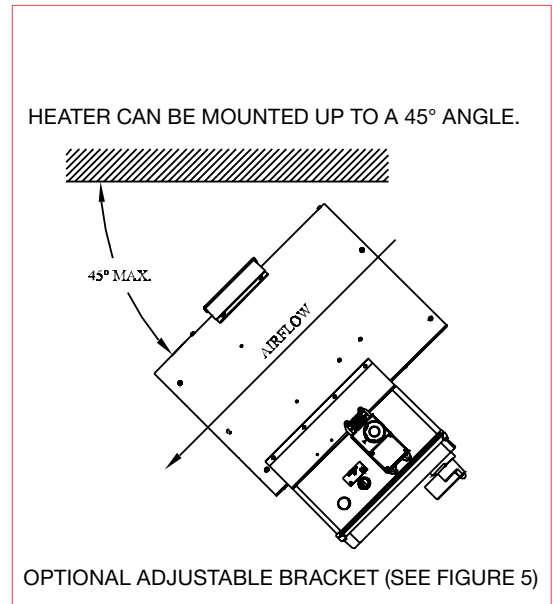

Figure 2
4. Install the bracket (see Figure 2 - 5 for installation instructions).
6. For maximum tilt angles, see Figure 2. For maximum mounting height, see general specifications table on page 11.